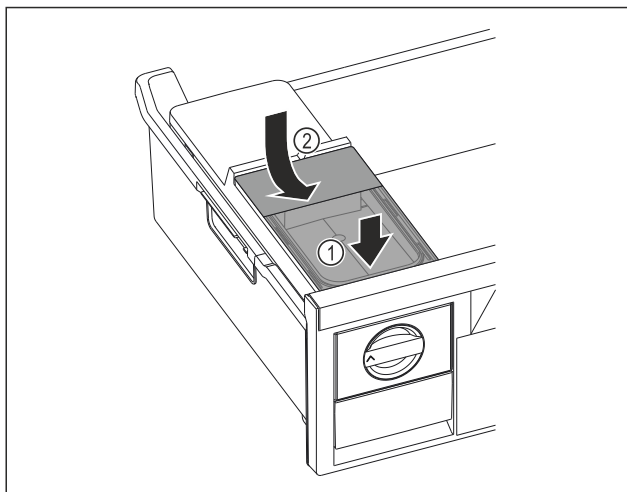

Fig. 68
- Position the water tank at the front. Fig. 68 (1)
- Lower the water tank at the rear. Fig. 68 (2)